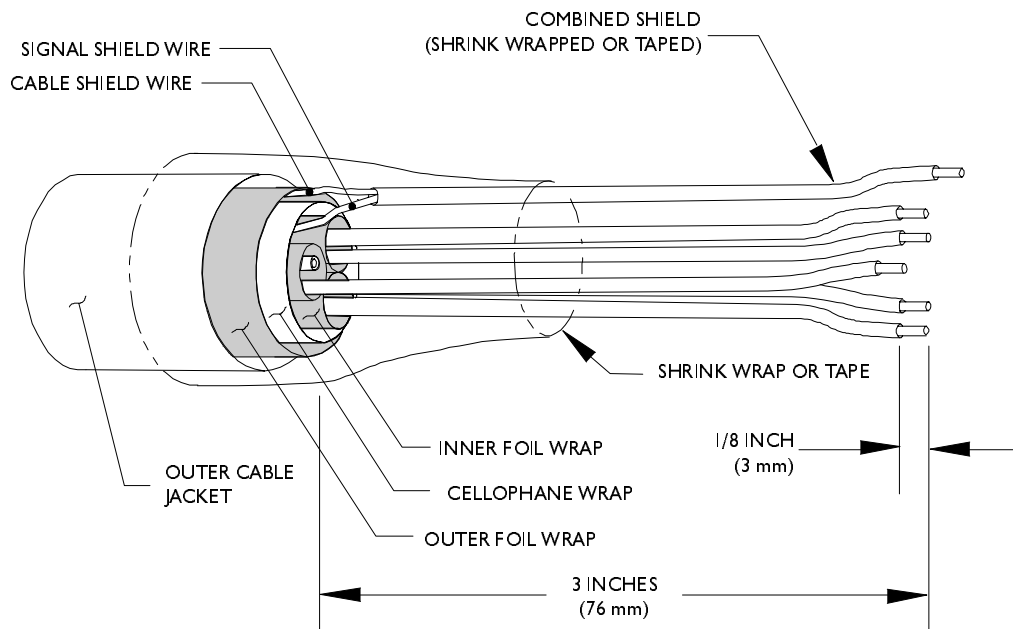

FIGURE 2-6 Standard Termination Details (for all applications except CE)
1. Refer to Figure 2-6 and strip back 3 inches (76 mm) of the outer cable jacket, outer foil wrap, cellophane wrap, inner foil wrap, and unused black wire. This exposes the signal shield wire, the cable shield wire, and five colored wires (red, green, yellow, white, and blue).